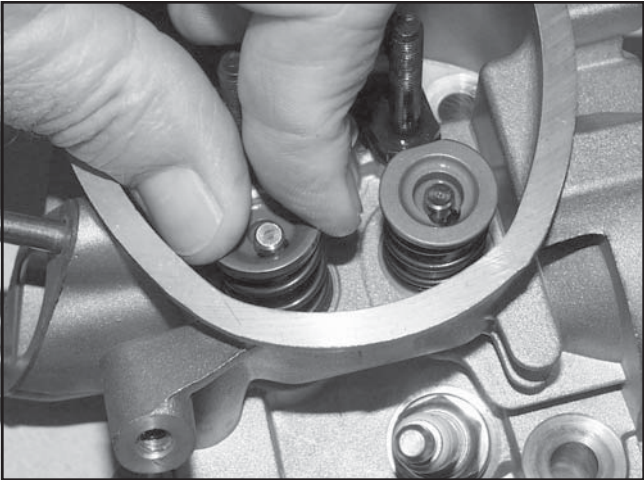

Figure 11-45. Installing Valve Retainers.
- 3. Install the valve springs and retainers into their respective locations in the cylinder head. Support the valve heads from underneath. Using hand pressure, compress each valve spring and slide each retainer onto the valve stem to lock in place. See Figure 11-45.